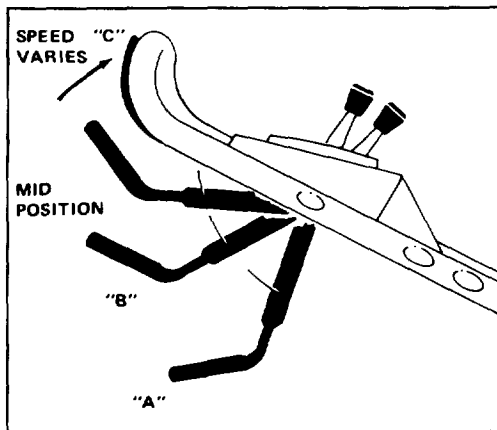

Figure 10
5. BLADE AND TRACTION OPERATION (Fig. 10)—Move control bar down to "A" and raise to engage blade "B". Move ground speed control to desired setting and squeeze control bar against handle "C" to drive. Ground speed varies, depending on space between control bar and handle. To disengage traction drive, but keep blade engaged, gradually release control bar to mid position. To self-propel with blade disengaged, simply squeeze control bar against handle, eliminating downward movement necessary for blade engagement.